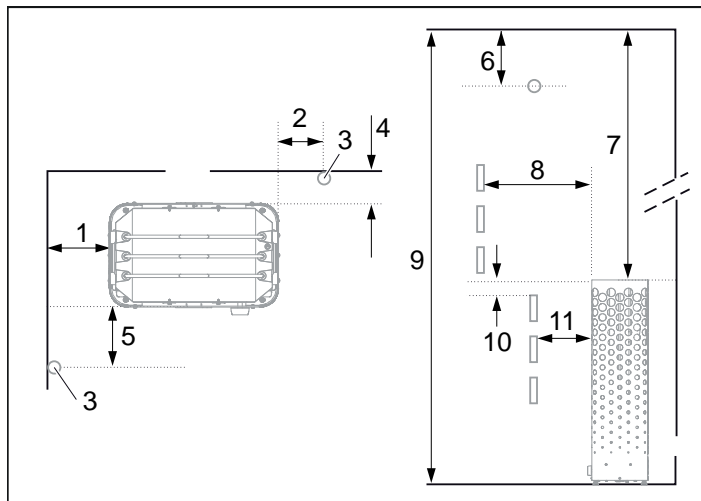
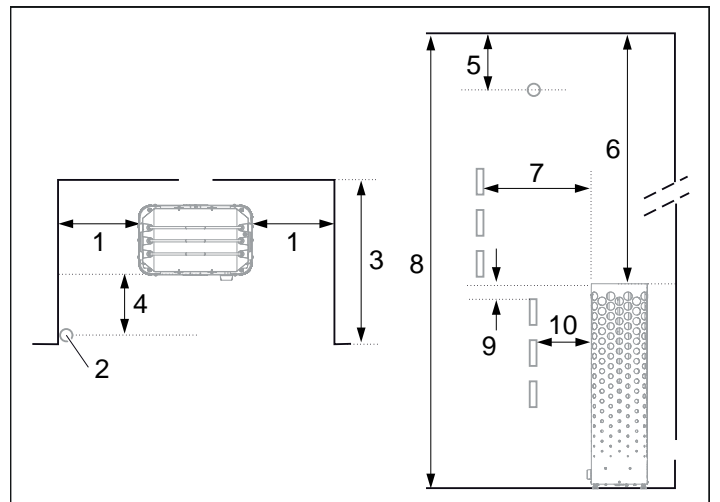

Figure 3: Positioning the heater - normal installation
Figure 5: Positioning the heater - recess installation
- Plan the sensor positioning (see Figure 3, page 8 and Figure 5, page 8).
- on the same wall as the door (or the side wall, if very close to the door wall). The heater may also be placed in a recess (see Figure 5).
- Position the heater at a safe distance from the floor, side walls and interior fittings (see Figure 3).
Position the sensor according to the picture (see Figure 3).
1. Position the heater at a safe distance from the floor, side walls and interior fittings (see Figure 5).
2. Position the sensor according to the picture (see Figure 5).